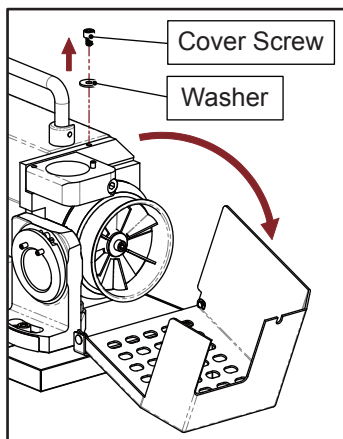

Fig. 15-2
- ③ Loosen the screw from the grinding wheel cover to open the cover. (Fig. 15-2)